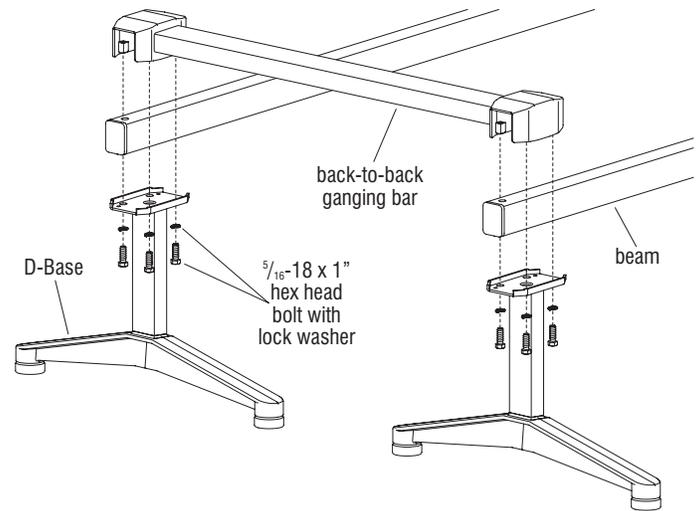

Figure 4
21. Set the beams that are to be ganged back-to-back onto the "yolk plates" of the D-bases. Make sure the cover plates have approximately $7\frac{1}{2}$ " of beam extending beyond them when installing a back-to-back ganging bar near the ends of the beams (Figure 4).
22. Place the ganging bar over the beams and D-bases as illustrated. Attach each end of the ganging bar to the appropriate D-base from underneath with four $\frac{5}{16}$ -18 x 1" hex head bolts and lock washers. Torque bolts to 21 ft/lb in a diagonal pattern (Figure 4).